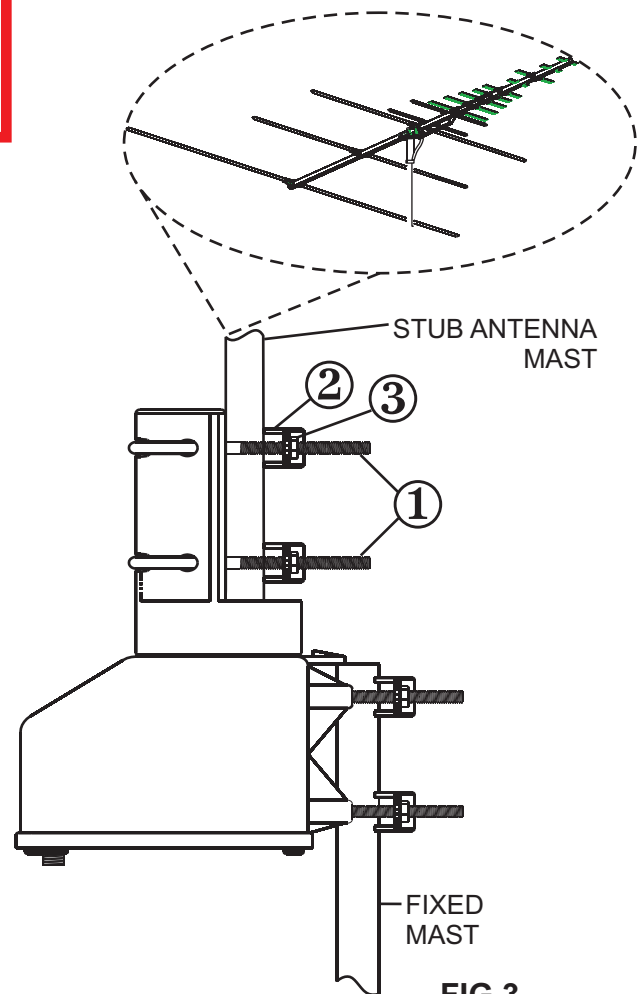

FIG 3
- Attach the antenna to the rotator using a very short (approx 12 inch) stub mast and the two U-bolts ①. Tighten the two C-clamps ② evenly, using the nuts ③. Use the shortest possible stub-mast to minimize wind loading. See Fig 3